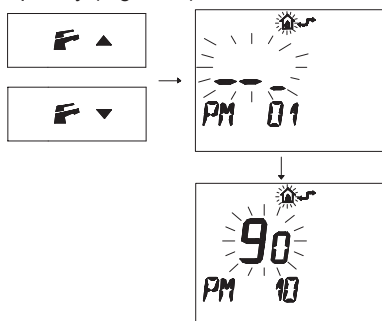

Fig. 8.28
- Press buttons  or  to display the "PM10" program for selecting the ignition frequency (Fig. 8.28).
In Fig. 8.28 a SET programmed at **90** is displayed corresponding to a re-ignition time of about 3 minutes.